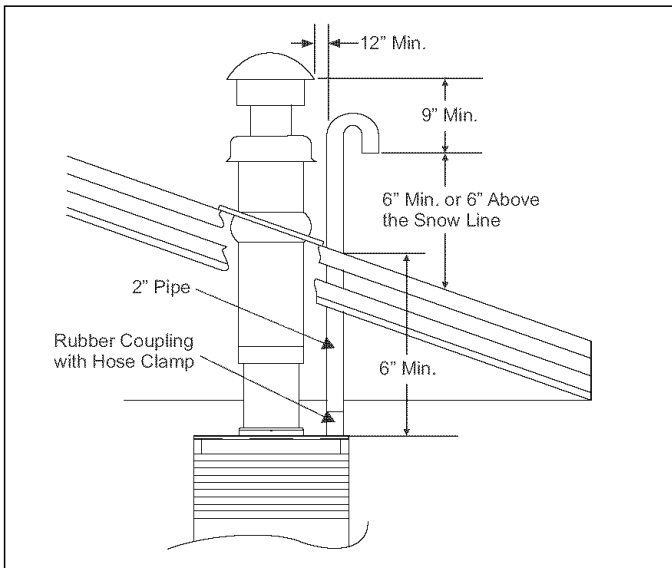

FIGURE 26: Combustion Air Inlet Pipe
Only use the appropriate roof jack. See Figures 26, 27, 30, & 31 for correct application.
Therefore, if the furnace will be located in regions where snow accumulation on the roof exceeds 4" or in H.U.D. Snow Load Zones, a roof jack extension and PVC combustion air inlet extension is recommended. Refer to Figure 26 or 27.
4. Insert combustion air inlet coupling into casing. See Figure 26 or 27.
9. Attach elbow assembly to combustion air inlet piping. See Figure 26 or 27. Inlet must be minimum 6" (15.2 cm) above highest anticipated snow level, but no more than 24" 61.0 cm) above roof.